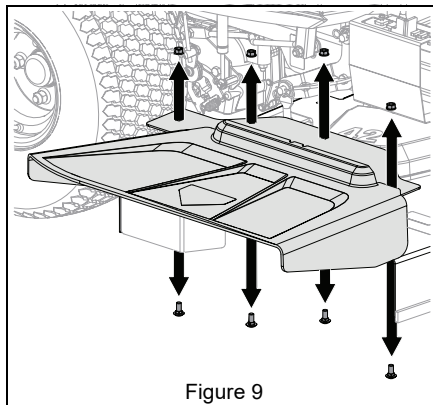

Figure 9
1. Remove four 5/16" round head square neck bolts and four 5/16" nuts securing discharge chute and plate to deck. Retain chute, plate and hardware for operation without bagger. See Figure 9.
9. Reinstall discharge chute and plate with original hardware. See Figures 9 and 11.